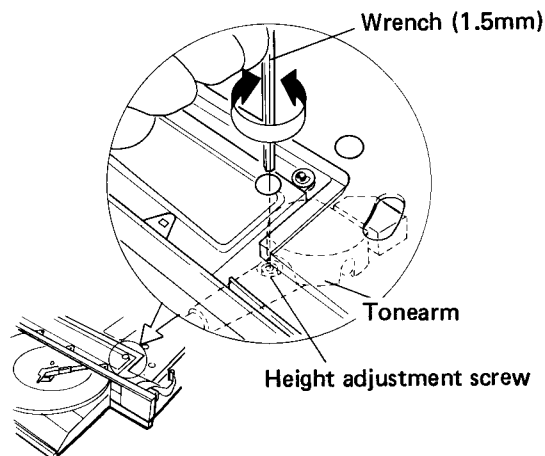

Fig. 9.12 Stylus Tip adjustment Screw
- While holding the tonearm in the left hand, adjust the adjustment screw with a wrench (1.5mm) passed through the adjustment hole as shown in Fig. 9.12.